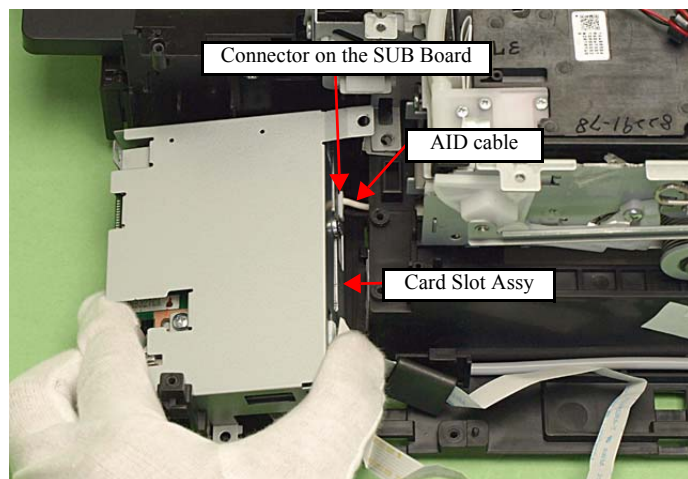

Figure 4-239. Removing the Card Slot Assy (2)
- Connect the AID cable properly to the connector on the SUB Board. (See Fig. 4-239.)